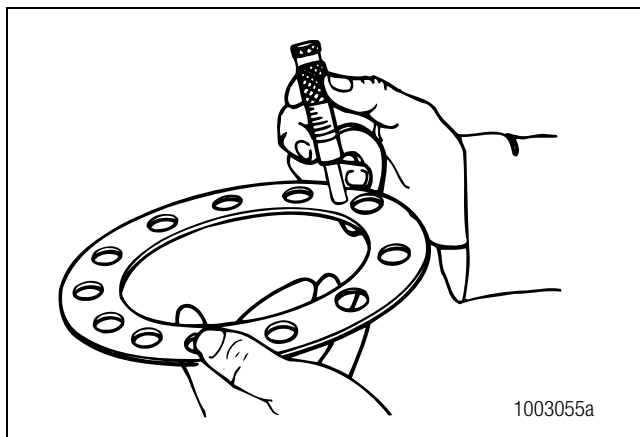

Figure 5.24
1. Use a micrometer to measure the thickness of the shim pack that was removed from under the pinion cage. Record the measurement. Figure 5.24.